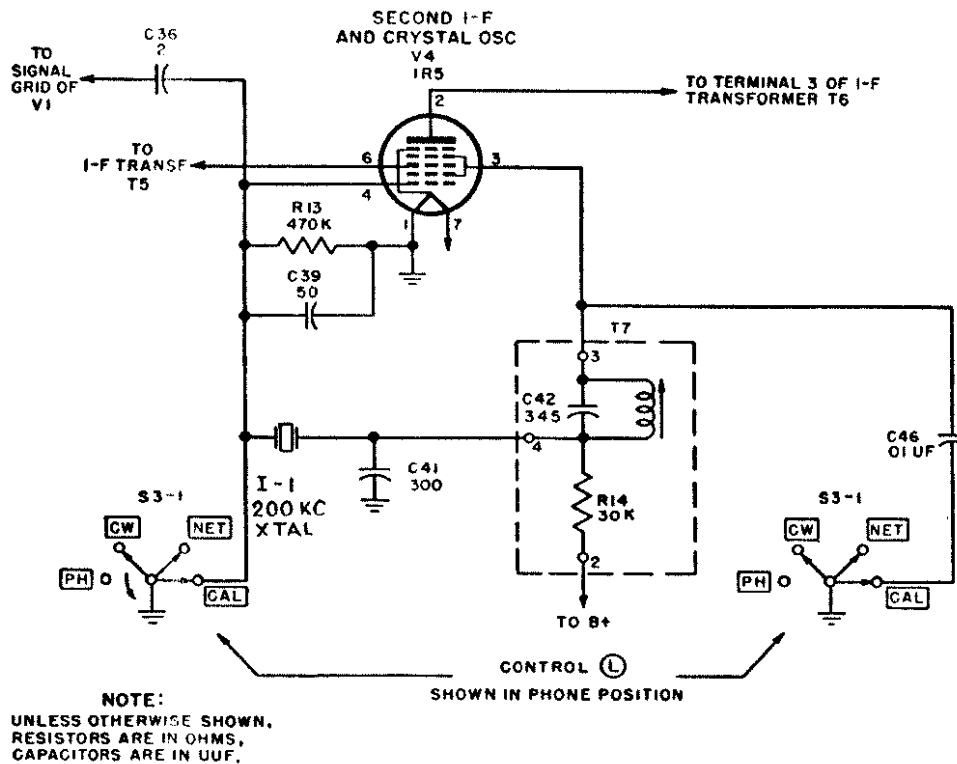

Figure 60. Crystal calibrator circuit.
83. Crystal Calibrating Circuit (fig. 60)